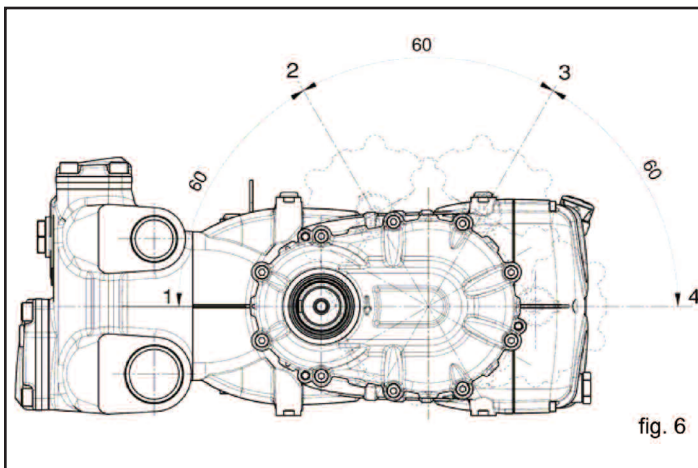

fig. 6
- 5 quarts for versions with the reducer in positions 1 and 4 (see fig. 6). This amount will be slightly lower for positions 2 and 3.
It is furthermore possible to set the reducer in 4 different positions as shown in fig. 6.